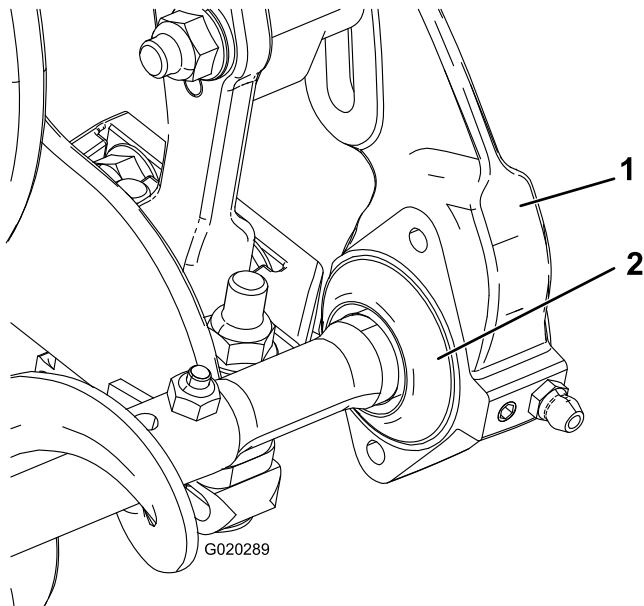

Figure 14
19. Slide each excluder seal outward until the lip seals are in light contact with each bearing housing (Figure 14).